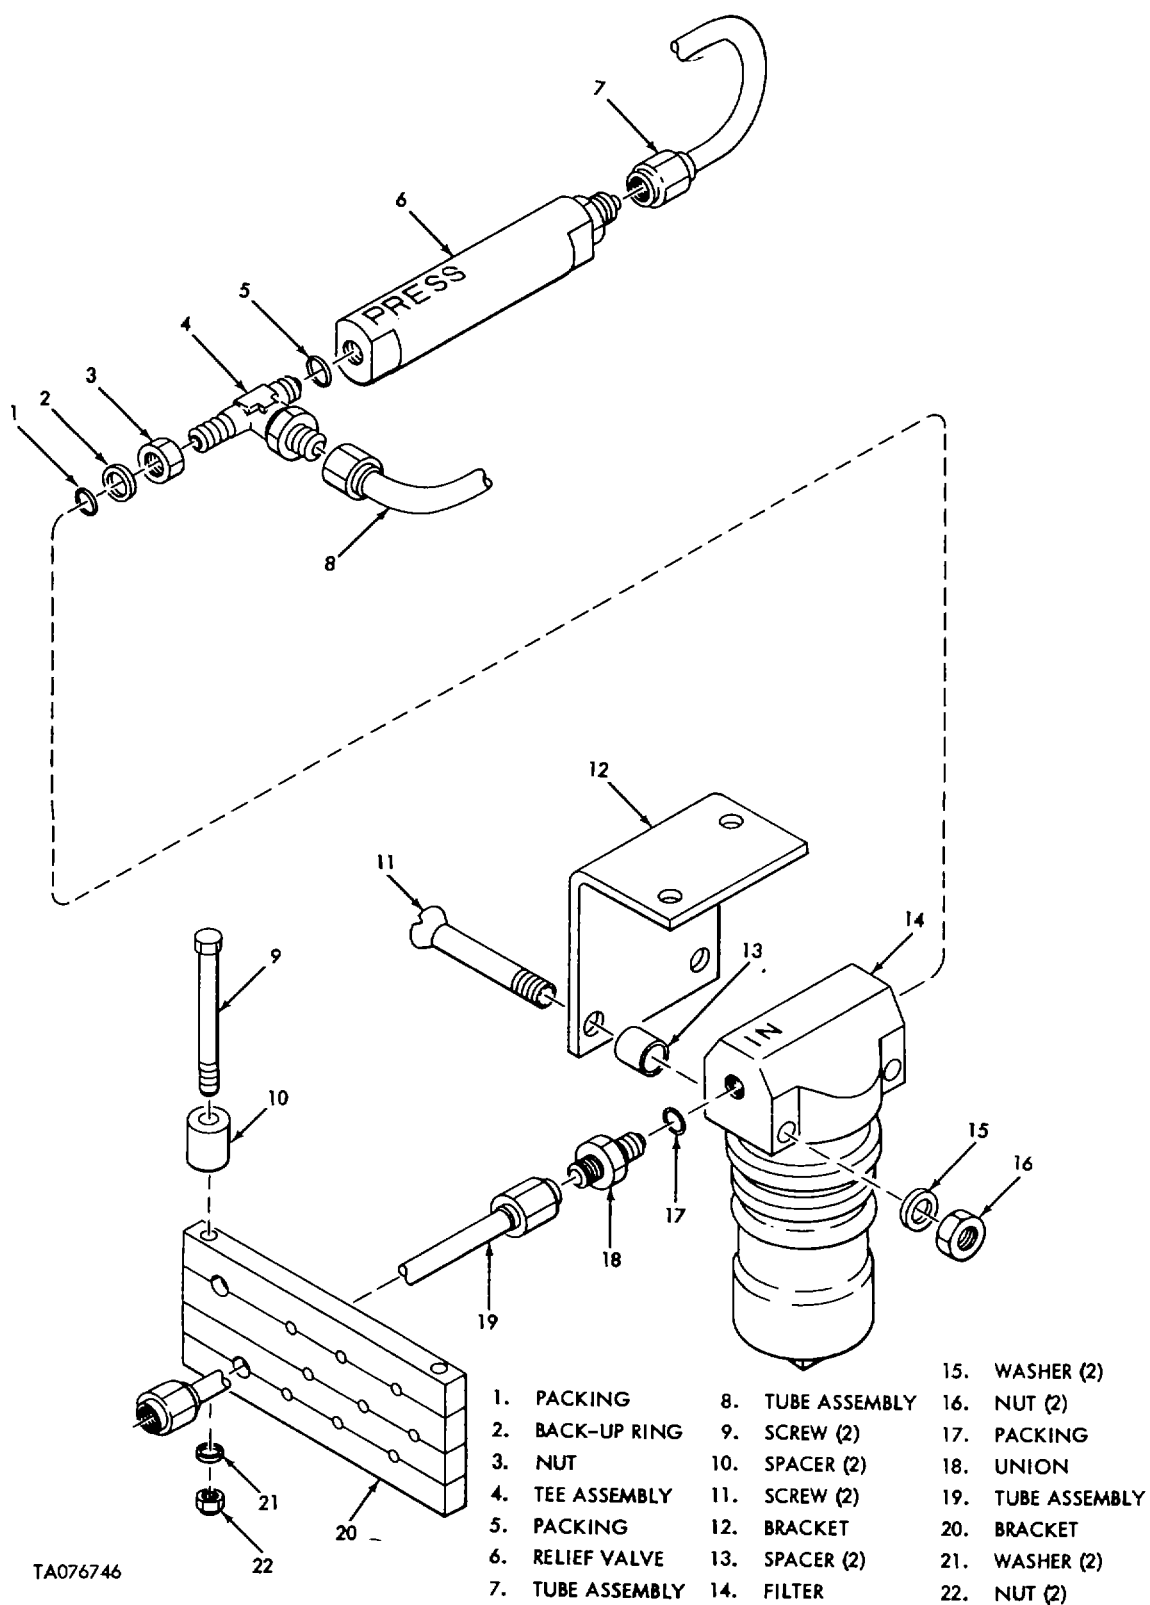

Figure 3-51. Hydraulic Fluid Filter Removal
- a. Removal (fig. 3-51).
- (1) Loosen nut (22) and screw (9) sufficiently to allow movement of tube assembly (19) in bracket (20).
- (2) Disconnect tube assemblies (7, 8, and 19) from union (18) and tee assembly (4), and valve (6).
- (3) Remove relief valve (6) and packing (5).
- (4) Loosen nut (3) and remove tee (4) and associated parts (1, 2, and 3).
- (5) Slip tube assembly (19) away from union (18) and remove union and packing (17).
- (6) Remove two each nut (16) and washer (15).
- (7) Remove two each screw (11) and spacer (13) and remove filter (14) from bracket (12).